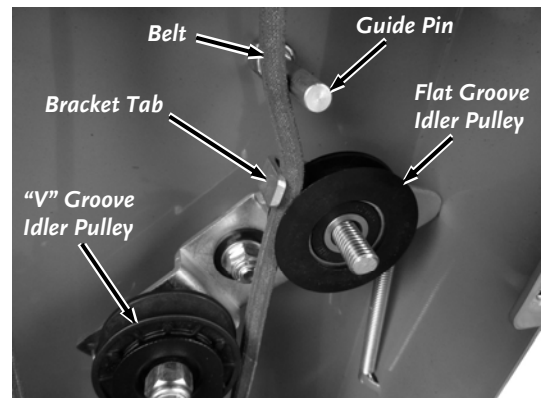

Figure 27
9. Install the small Spacer first, then the Flat Groove Idler Pulley with the Belt in the groove. Make sure you place the Belt correctly between the Idler Pulley, Bracket Tab, and Guide Pin (**Figure 27**).
The Belt must be installed on the inside of the guide Pin as shown in figure 27. If it is not installed on the inside the Trimmer Head will not function correctly.